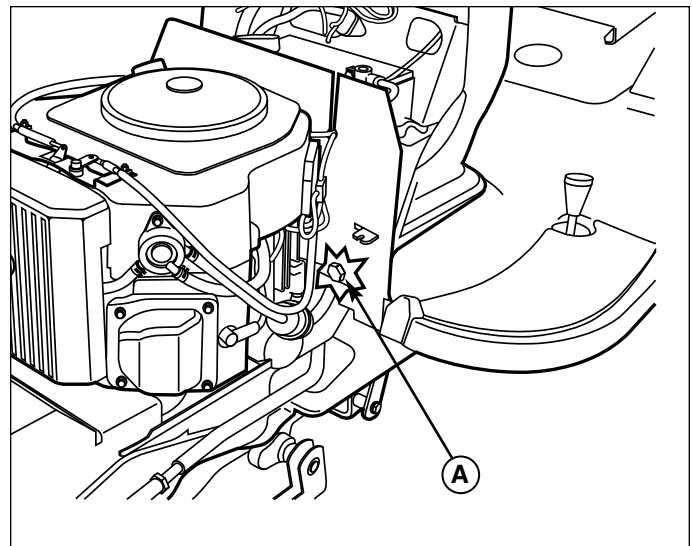

**Figure 39. Seat Adjustment**
The pitch of the seat can be adjusted to one of three positions. To adjust, remove the carriage bolts, spacers, washers, and nuts (B, Figure 39) from the hinge and reinstall them in the desired holes.
The seat can also be adjusted forward and back. Move the lever (A, Figure 39), position the seat as desired, and release the lever to lock the seat into position.
The seat springs (C, Figure 39) can be adjusted to provide a softer or firmer ride. Tilt the seat forward and slide the spring assembly (C) forward for a softer ride, and back for a firmer ride.